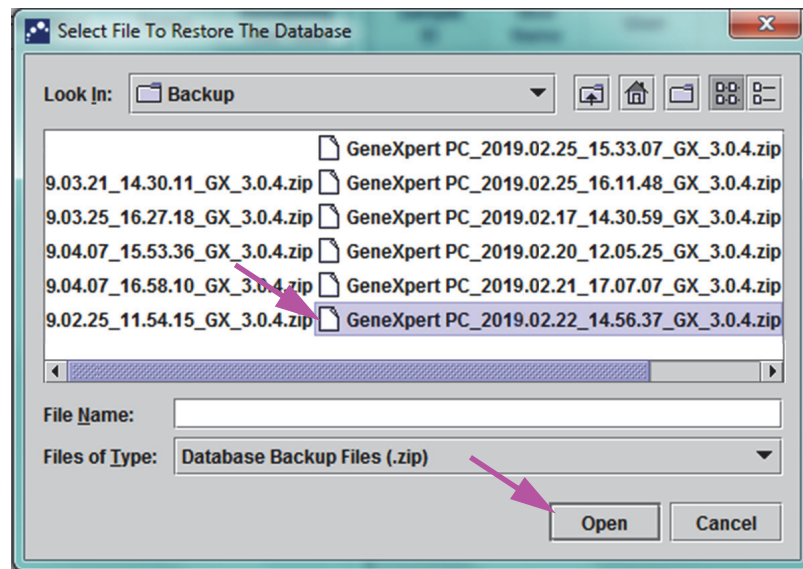

Figure 5-70. Select File to Restore the Database Screen, with Filename
Click **Cancel** to not back up the database and proceed directly to the Select File To Restore the Database screen (see Figure 5-70).
6. Click **OK**. The Select File to Restore the Database screen appears. See Figure 5-70.